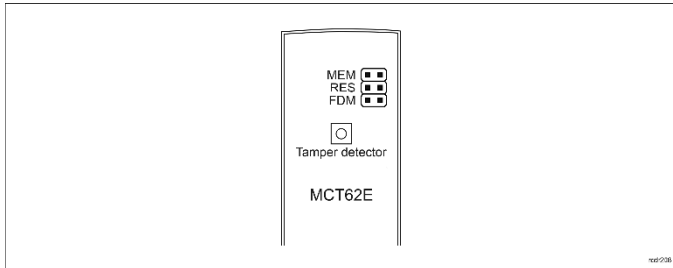

Fig. 3 Enclosure opening and location of service contact.
Note: Remote configuration of device from VISO v2 software is possible only if jumper is placed on MEM contacts (fig. 3). If the jumper is removed then such configuration is blocked. In case of factory new device, jumper is placed on MEM contacts.
In RACS 5 v2 system the reader can be installed at site without previous configuration. According to AN006 application note, its address and other settings can be configured from VISO v2 management software and during such configuration the access to its service contacts (fig. 3) is not required.
2. Remove jumper from MEM contacts (fig. 3) if it is placed there.
2. Place jumper on FDM contacts (fig. 3).